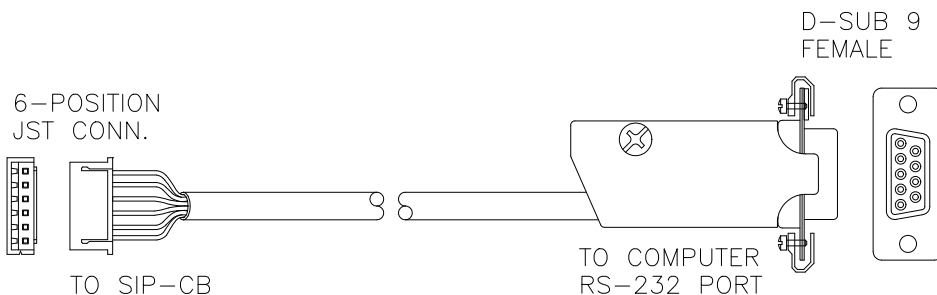

Figure 2-1
- Programming adaptor cable (RS-232) as illustrated in Figure 2-1. This item can be ordered under Mercury part number 1002-0299C-001.